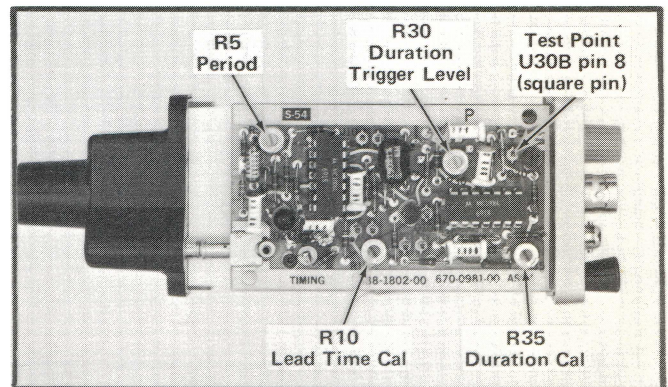

Fig. 5-7. Timing board, on the instrument left side, showing the location of internal controls.
1. Adjust Duration Trigger Level (R30) ❶
a. Connect the Trigger Out connector on the Type 285 through a BSM to BNC 50 Ω coaxial cable, and a 50 Ω feedthrough termination to the 7B50 Ext Trig In. Connect the Type S-54 PRETRIG OUT through a BSM to BNC coaxial cable, and a 50 Ω feedthrough termination to the 7A12 CH 1 connector. Connect the 10X probe to the 7A12 CH 2, and connect the probe tip to the square pin test point or U30 B pin 8. See Fig. 5-7. Connect the probe ground lead to the Timing board ground.